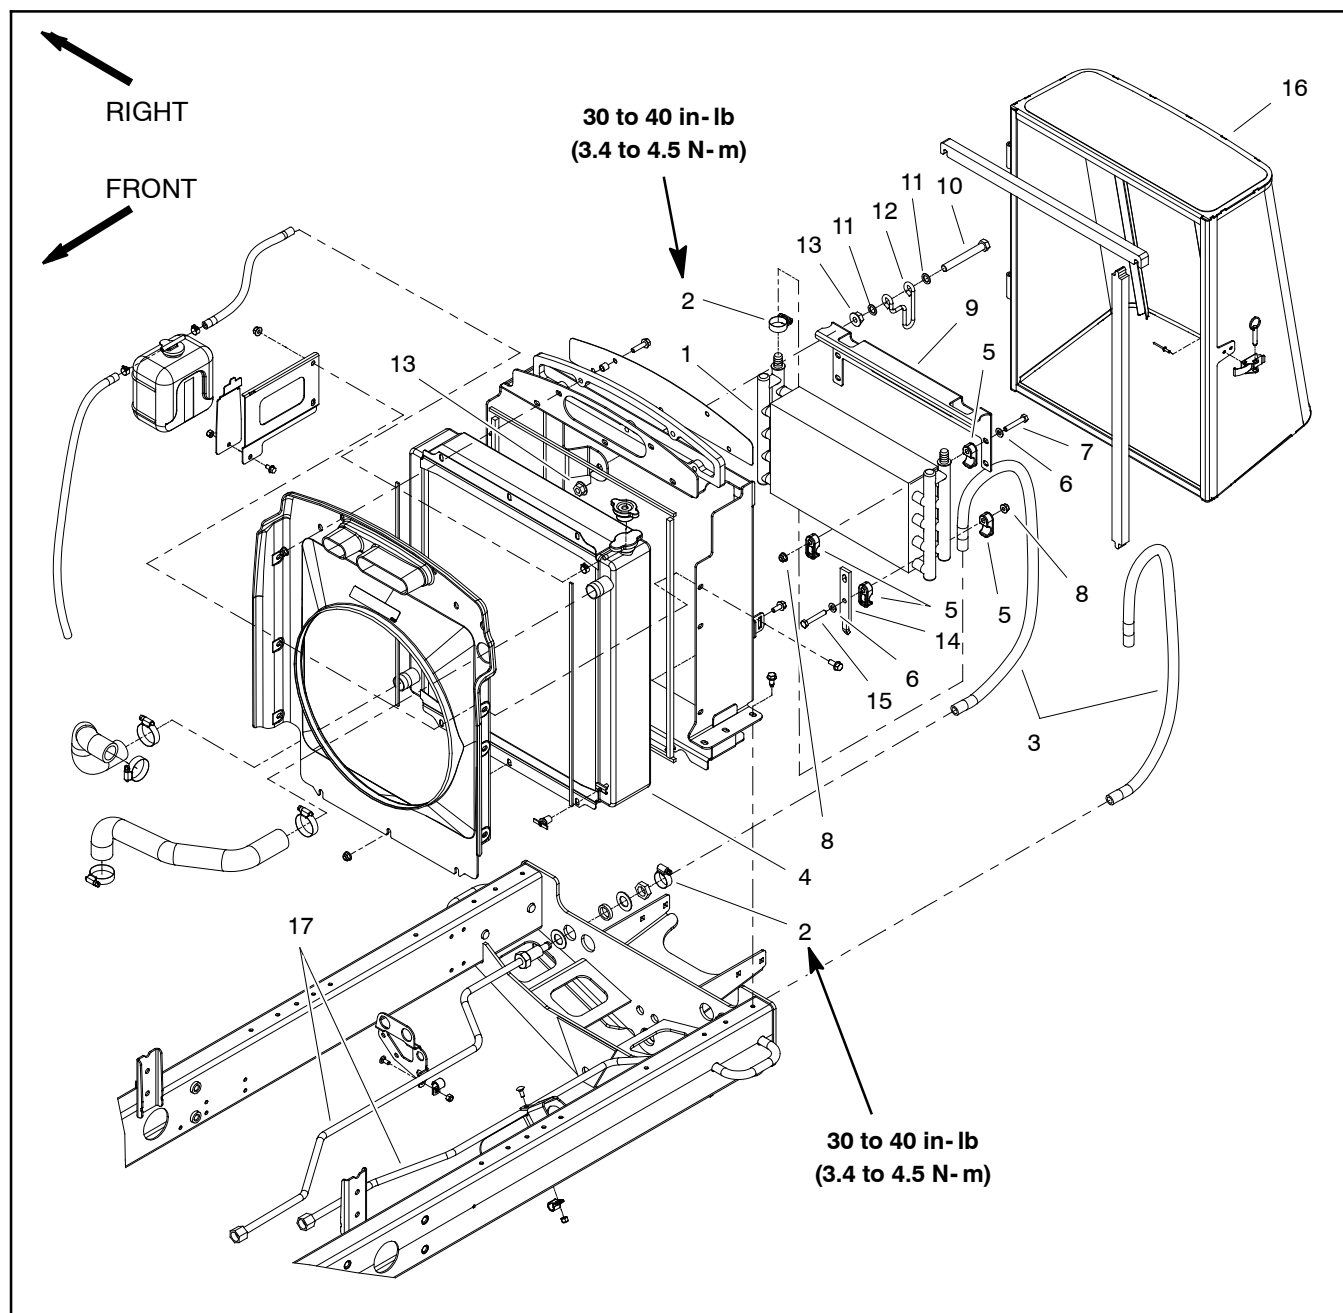

Figure 85
Removal (Fig. 85)
8. If necessary, remove clamps and brackets from oil cooler using Figure 85 as a guide.
Installation (Fig. 85)
1. If removed, install clamps and brackets to oil cooler using Figure 85 as a guide.